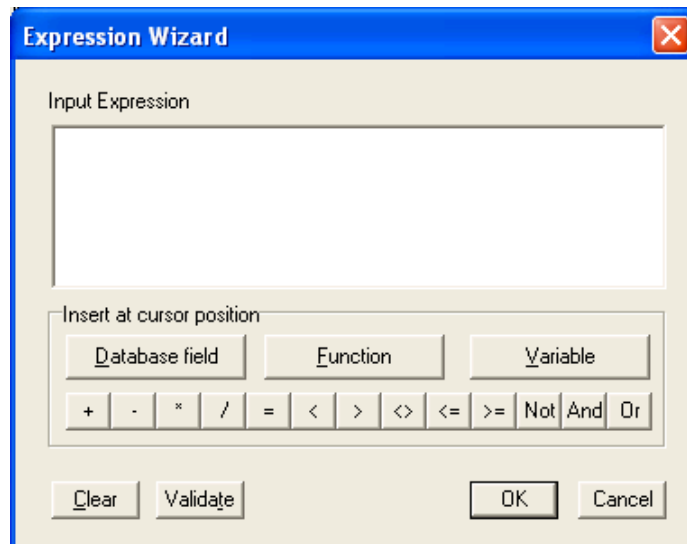

Figure 23 - Expression Wizard
8. The **Expression Wizard** (Figure 23) is displayed.